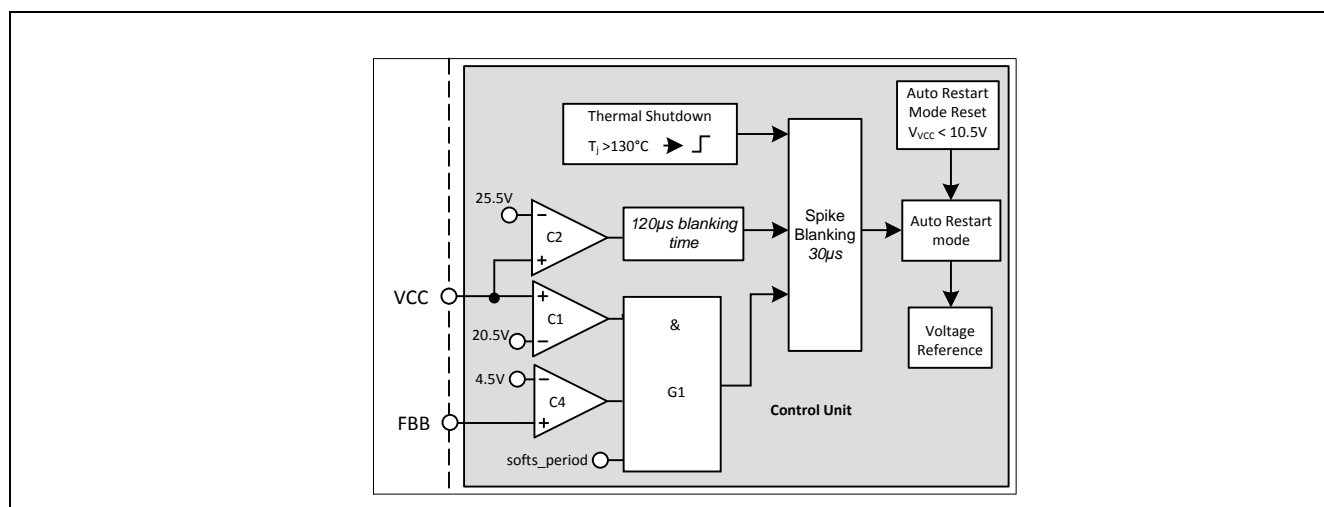

Figure 30: Vcc OVP and OTP
Vcc OVP (1) condition is when V_{VCC} voltage is > 20.5V, V_{FBB} voltage is > 4.5V and during soft start period, the IC enters into odd skip Auto Restart Mode. This condition likely happens during start up at open loop fault (Figure 30).
V_{CC} OVP (2) condition is when V_{CC} voltage is > 25.5V, the IC enters into odd skip Auto Restart Mode (Figure 30).
The over temperature protection OTP is sensed inside the controller IC. The Thermal Shutdown block keeps on monitoring the junction temperature of the controller. After detecting a junction temperature higher than 130°C, the IC will enter into the non switch Auto Restart mode. The ICE3AR4780VJZ has also implemented with a 50°C hysteresis. That means the IC can only be recovered when the controller junction temperature is dropped 50°C lower than the over temperature trigger point (Figure 30).